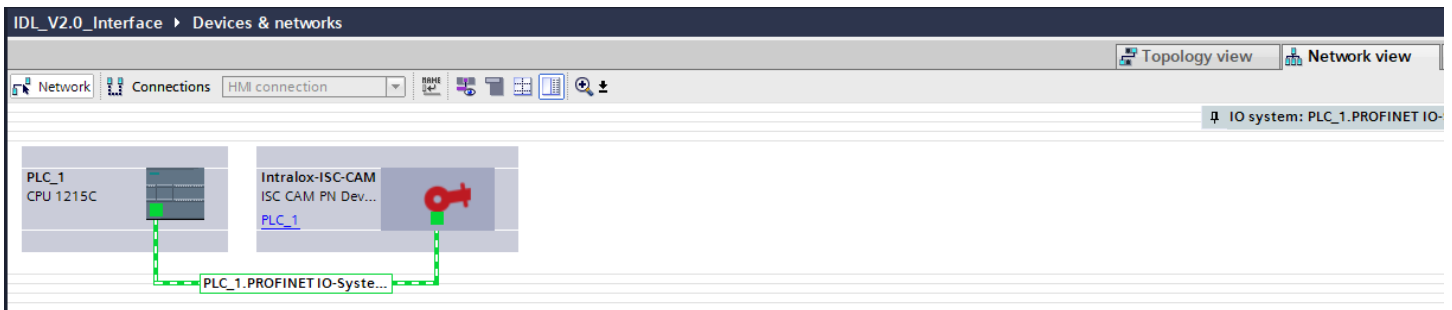

Figure 9: IO Controller Link
16. A connection shall be established to the IO controller, Figure 9.